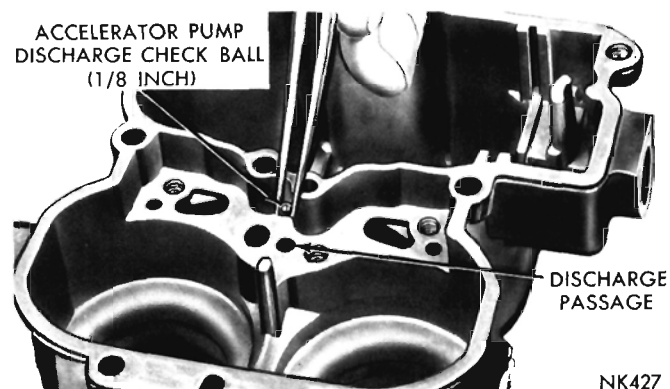

Fig. 13—Installing the Discharge Check Ball
(5) Install the accelerator pump discharge check ball ($\frac{1}{8}$ inch) in the discharge passage, as shown in (Fig. 13).